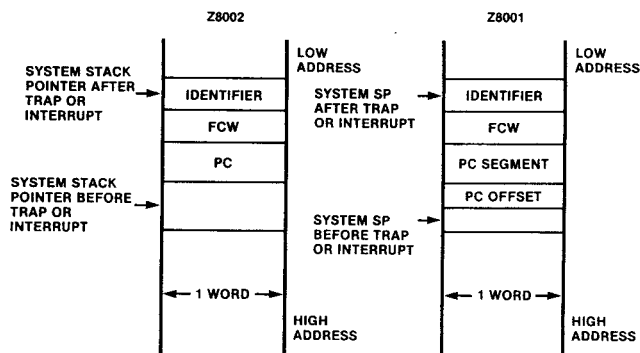

Figure 7-1. Format of Saved Program Status in the System Stack
7.6.2 Status Saving. The old program status information is saved by being pushed on the system stack in the following order: the Program Counter (PC: 16 bits for Z8002; 16-bit offset followed by 7-bit segment number for Z8001); the Flag and Control Word (FCW); and finally, the interrupt/trap identifier word. The identifier word contains the reason or source of the trap or interrupt. For internal traps, the identifier is the first word of the trapped instruction. For segment trap or interrupts, the identifier is the value on the data bus read by the CPU during the interrupt-acknowledge or trap-acknowledge cycle. The format of the saved program status in the system stack is illustrated in Figure 7.1.